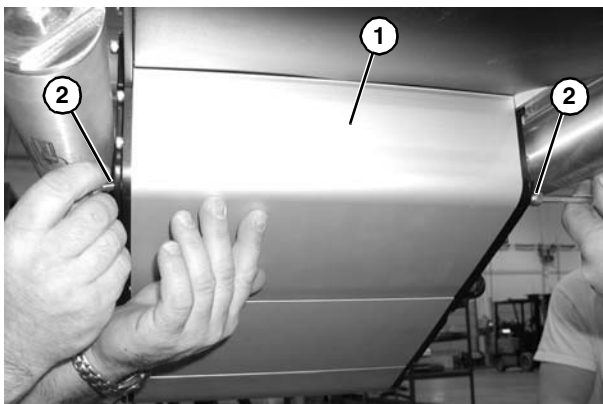

Figure 20
3. Temporarily support idler guard assembly (**Figure 20, item 1**). Remove screws (**Figure 20, item 2**).